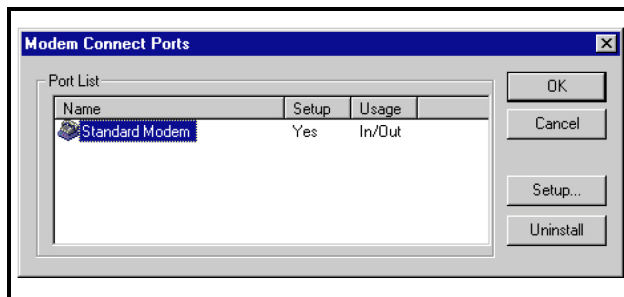

Figure 2-4 - Modem Connect Ports Dialog Box
3. The Modem Connect Ports dialog box (*Figure 2-4*) should list all modems that have been properly installed on your computer and recognized by Windows. Select the modem UltraSite will use for dialing and receiving, and click the Setup button.